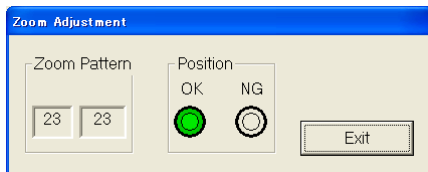

Fig. 4-7-3
- 3) Set the zoom position to Wide end, and check that the OK (Green) indicator of “Position” lights as shown in Fig. 4-7-3.